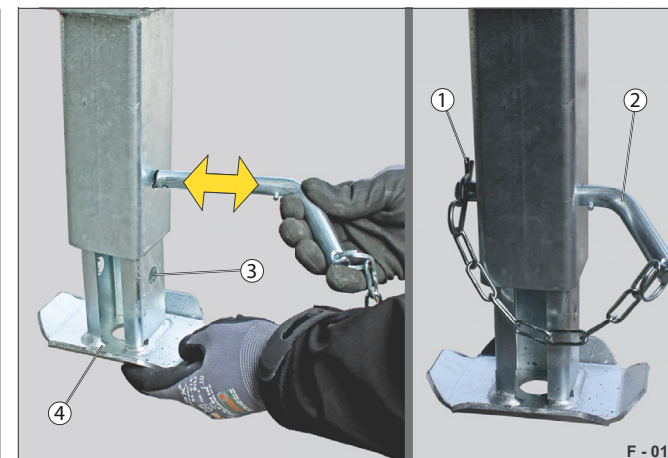

Fig. 24 Folding supports, height adjustment
- Pull the R-clip (Fig. 24 /1) from the plug pin (Fig. 24 /2).
- Adjust the adjustable support (Fig. 24 /4) downwards so that it can be locked in place in a drill hole (Fig. 24 /3). If necessary, crank up the support legs slightly.